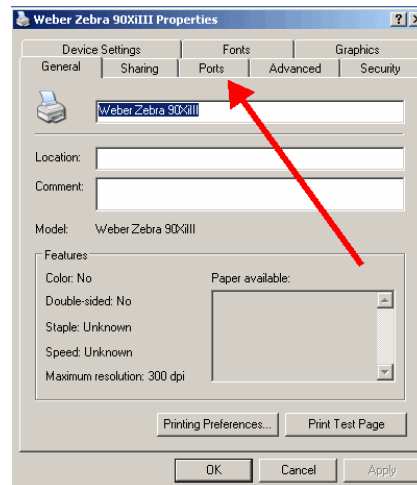

Figure 18
18. Click on the **Ports** tab.(Figure 18)